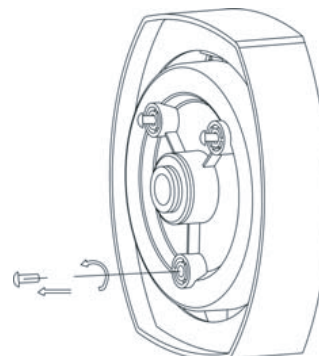

Fig 1
1. Remove and save the pre-installed screws from the underside of the fan, see Fig.1.